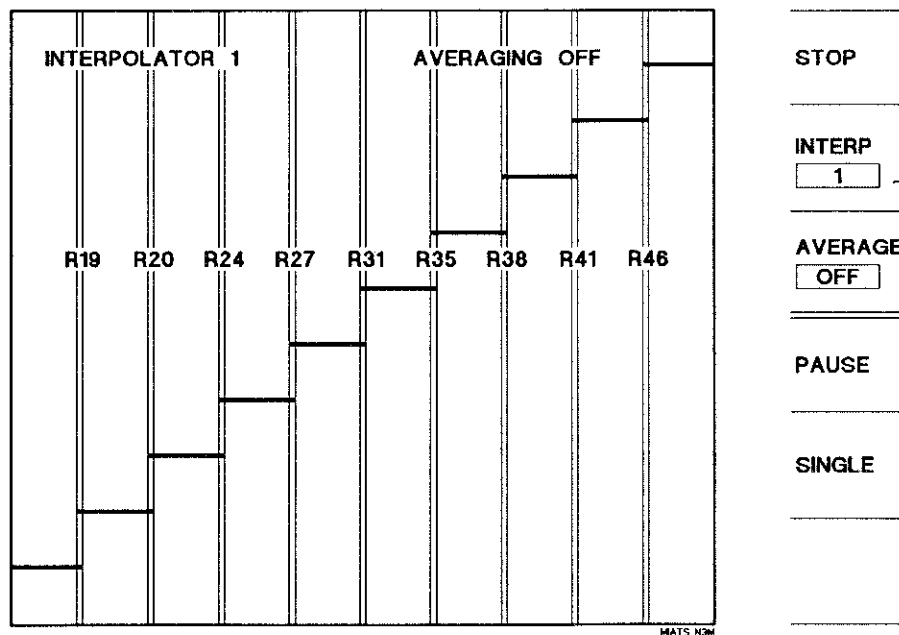

Figure 3-4. Interpolator Adjustment Test Screen (With Averaging Off)
11. The screen should display a staircase pattern as shown in *Figure 3-4*. A potentiometer is specified at each of the nine transition bands. Each potentiometer controls the steps on both sides of the transition band.